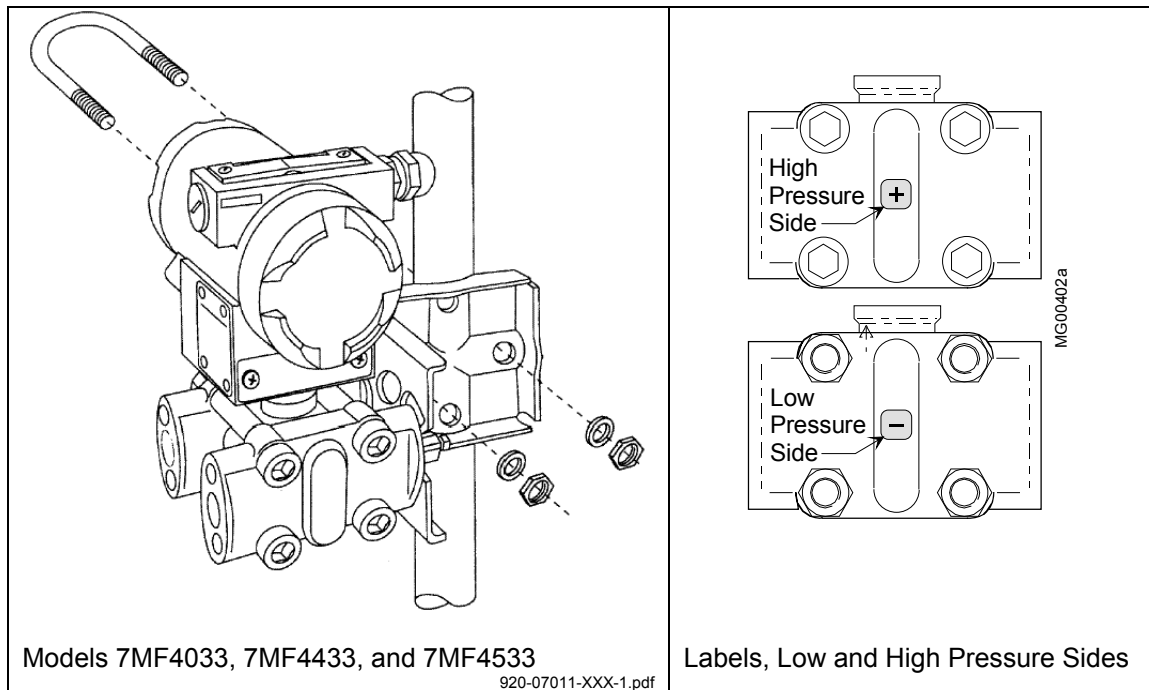

FIGURE 4-12 Pipe Mounting, Differential Construction
- See Figure 4-12 for Absolute Pressure Model 7MF4333, differential construction.
- See Figure 4-12 or 4-13 for Differential Pressure Models 7MF4433 and 7MF4533.
Transmitter process connections are on 2.13-inch (54 mm) centers to allow direct mounting (bolting) to a manifold with the same spacing. Each transmitter process connection (end cap) has two tapped 7/16-20 mounting holes and a 1/4 NPT tapped pressure inlet. High pressure (+) and low pressure (-) sides of the transmitter are marked by labels (see Figure 4-12) and engraved on the capsule between the end caps.